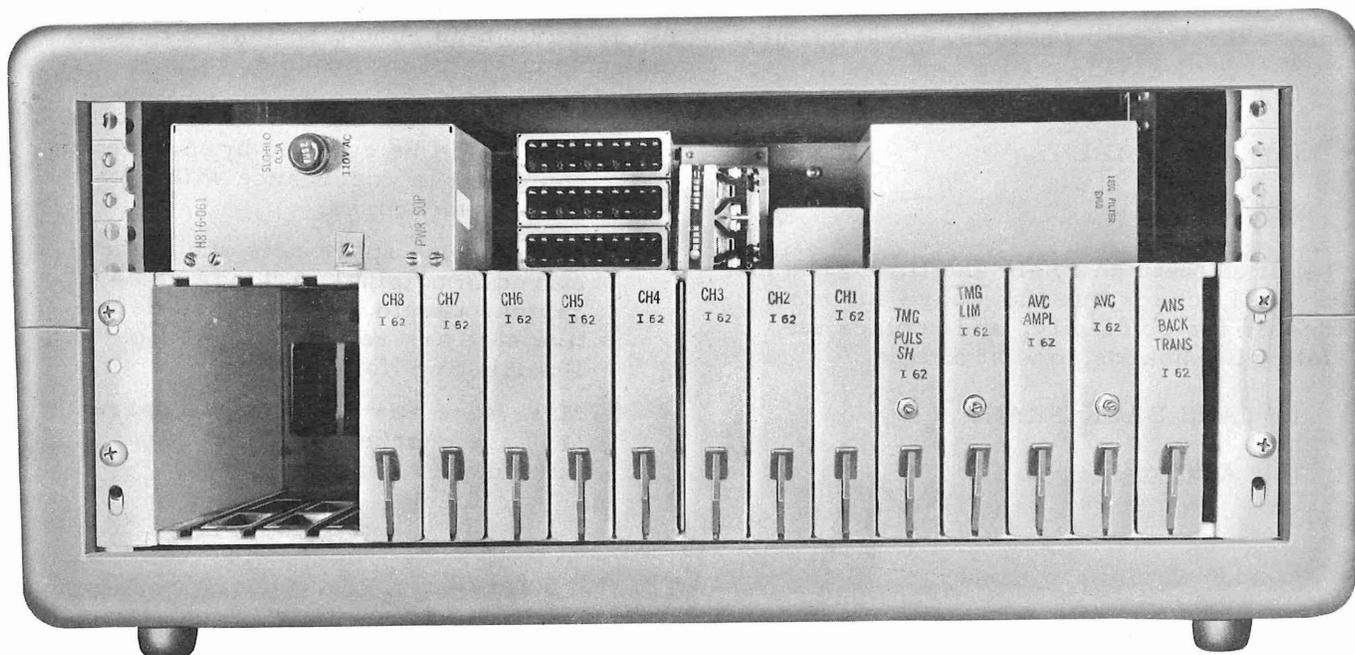

Fig. 1 - Data Set 402B, Front View, Cover Removed
- (1) Under no-voltage condition, check 0.5-amp fuse on front panel of power supply (Fig. 1).
2.09 Listed below is ordering information for replacement wiring boards (Fig. 1).